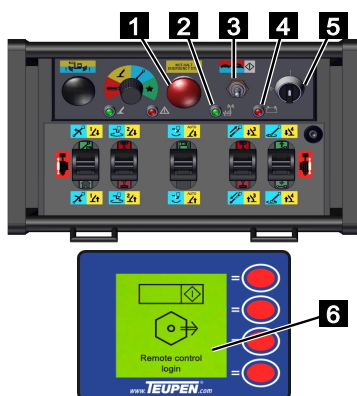

Fig. 70
3. Make sure that the emergency stop button on the radio control (Fig.70/1) has not been actuated.
4. To switch on the radio control, turn the rotary knob (Fig.70/2) clockwise to [1].
- The radio control beeps 2x, the rechargeable battery lamp (Fig.70/4) flashes 2x.
- The radio connection lamp (Fig.70/2) flashes rapidly.
5. The display shows the message “Log in radio control” (Fig.70/6). Push the rocker switch (Fig.70/3) to the right to the [Start] position.
- The radio connection lamp (Fig.70/2) flashes slowly.
After radio contact has been interrupted (e.g. due to changing the rechargeable battery), the radio control has to be logged back in on the receiver by pushing the rocker switch (Fig.70/3) to the [Start] position.